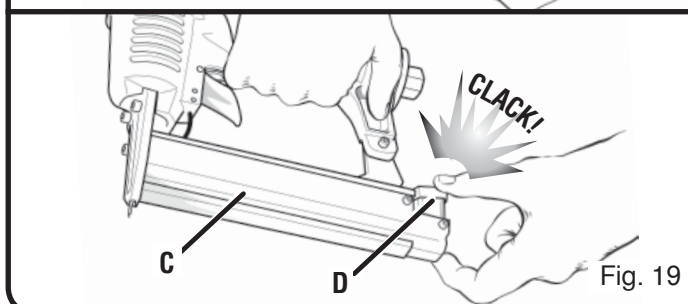

Fig. 19
- 7) Lock the outer part of cartridge (C), releasing lever (D). Make sure that the cartridge is securely fastened (Fig. 19).
- 11) Lock the outer part of cartridge (C), releasing lever (D). Make sure that the cartridge is firmly secured (Fig. 19).